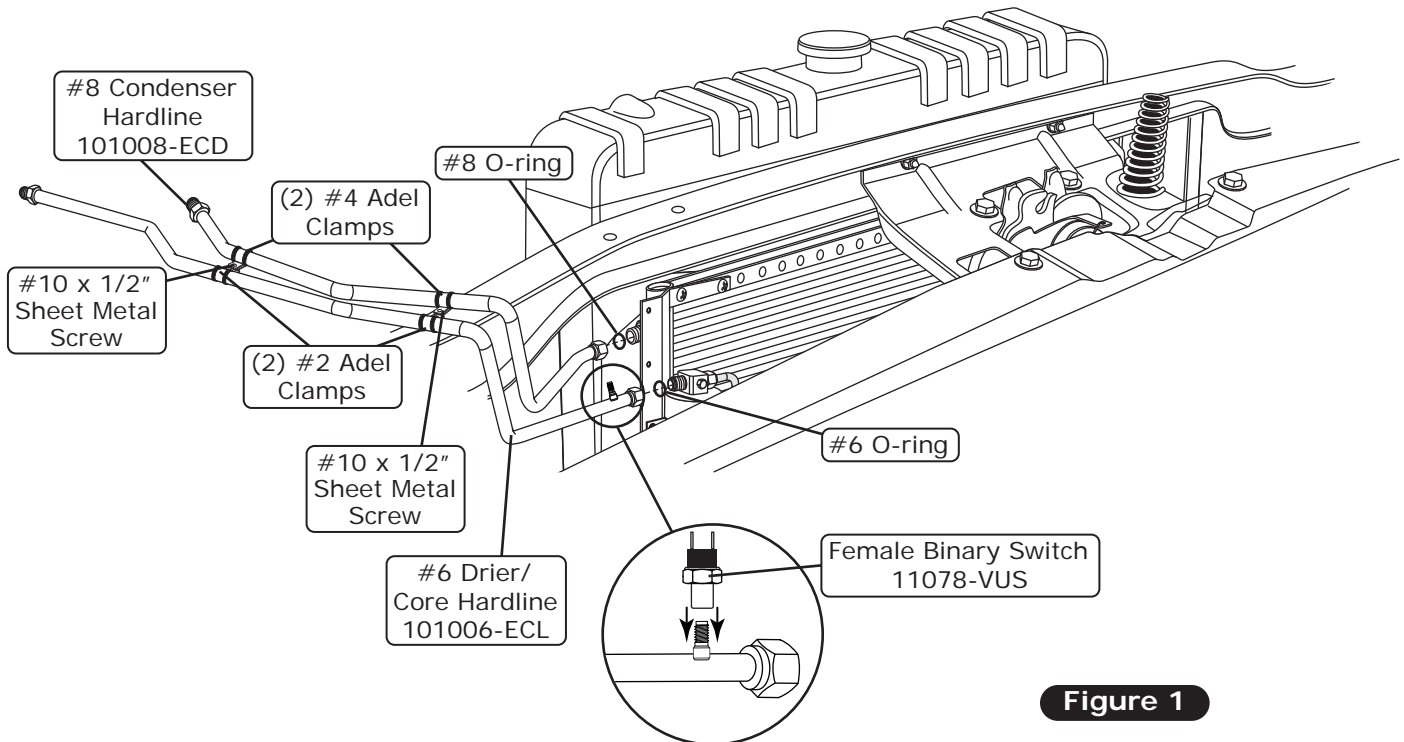

Figure 1
1. Place the (2) #2 Adel clamps around the #6 drier/core hardline and the (2) #4 Adel clamps around the #8 condenser hardline as shown in Figure 1, below.
2. Lubricate a #6 O-ring and #8 O-ring as shown in Figure 1, Page 8.
3. Install the #6 drier/core hardline and the #8 condenser hardline as shown in Figure 1, below.
4. Tighten the fitting connections as shown in Figure 1, Page 8.
5. Install the female binary switch onto the service port located on the #6 drier/core hardline as shown in Figure 1, below.